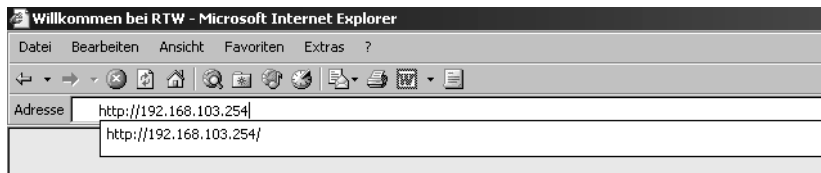

Fig. 8-26: Entering the IP-Address
1. Start your internet browser and enter `http://192.168.103.254` in the address field (see Fig. 8-26) followed by the hit of the return (Enter) key.